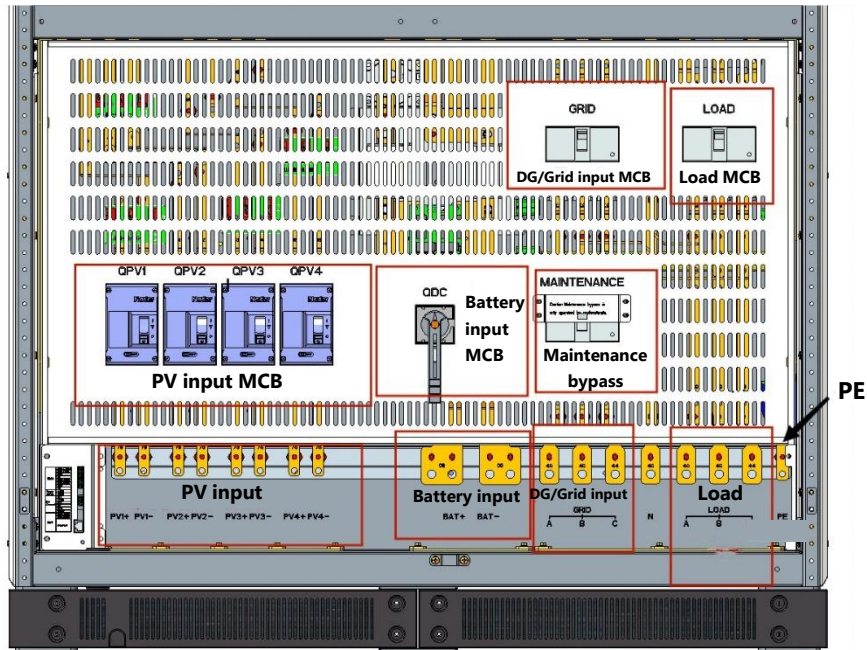

Figure 7-1 MGH input and output figure
(1) Confirm the photovoltaic input, and close the photovoltaic input switches QPV1 and QPV2 in Figure 7-1. After closing the PV input switch, if the monitor screen was black before, the monitor screen will start running at this time. (When photovoltaic power is transmitted, each photovoltaic channel must be measured to prevent short circuit).
The maintenance bypass circuit breaker (MAINTENANCE) in Figure 7-1 is normally in the off state. The maintenance bypass is to ensure that the load is not powered off when the MGH converter is overhauled or faulty (provided that the grid is powered), and the maintenance bypass is closed. After that, connect the diesel generator or grid to the load.